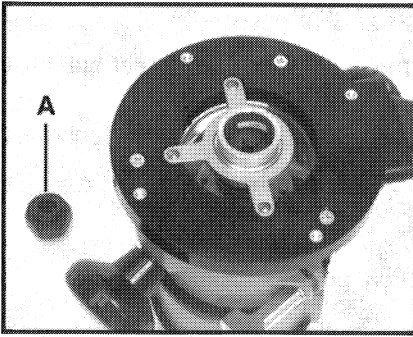

Fig. 4
2. Position the templet guide and insert assembly into the three recesses in the bottom of the vacuum base (see Fig. 4), and secure with three #4-40 x  $\frac{1}{4}$ " screws from the hardware package.
On router models equipped with the large collet retaining nut (A) Fig. 4, the router depth adjustment can be set to bring the chamfer on the collet retaining nut into contact with the chamfer in the templet guide retaining nut. This will provide precise alignment of the guide to the collet.
On router models NOT equipped with the large collet retaining nut (A) Fig. 4, alignment must be accomplished visually.